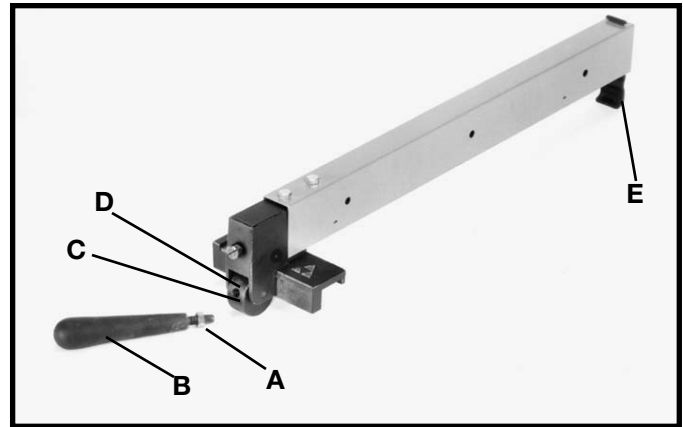
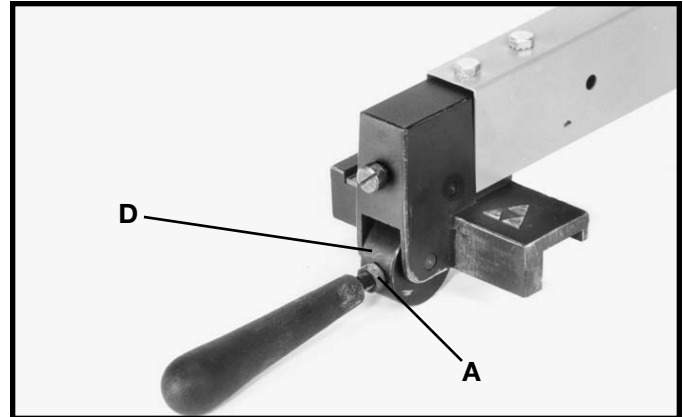
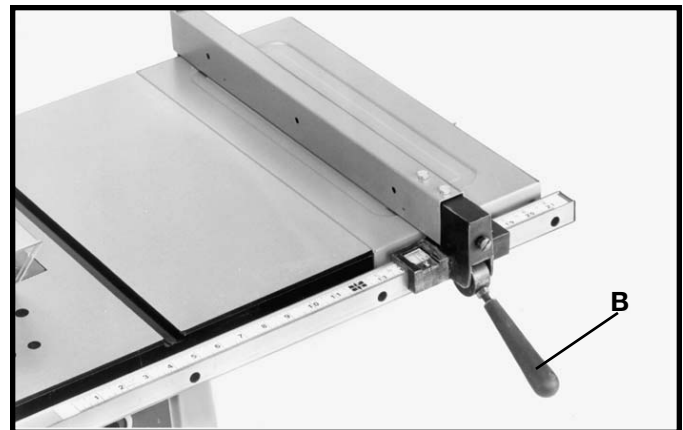

Fig. 22
Fig. 23
Fig. 24
1. Thread an M8 hex nut (A) Fig. 22, approximately halfway onto stud of handle (B).
2. Thread handle (B) Fig. 22, into tapped hole (C) in fence cam (D). Tighten hex nut (A) Fig. 23, against cam (D).
3. Lower rip fence onto table as shown in Fig. 24, making certain rear clamp (E) Fig. 22, hooks over back edge of table.
4. The rip fence is usually operated on the right hand side of the saw table. Lift lock handle (B) Fig. 24, and position fence on table as shown. Push downward on handle (B) Fig. 24, to lock fence in place on saw table.